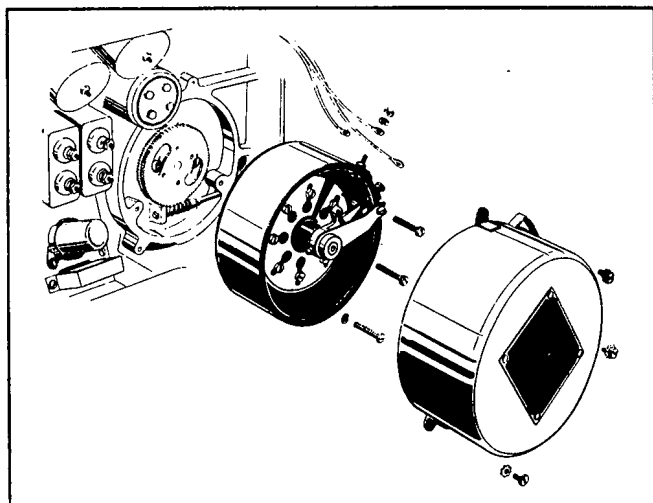

Figure 7-38. Removing Helipot from Range Scope
(1) The linearity required of the helipot cannot be adjusted very readily in the field. Consequently, if the alignment procedure discloses that the helipot is out of adjustment, it should be replaced. This is comparatively easy and is described in the following steps.
(2) Unscrew the captive screws that hold the front panel of the Range Scope to the Indicator Console case. Pull the chassis out until it locks. It is possible to replace the helipot with the chassis in this position. While it is a little awkward, it is necessary to remove the cable connections before the chassis can be completely removed. If it is desired to remove the chassis, press on the lock releases on each side of the opening into which the chassis slides. This releases the locks and allows the chassis to be completely removed. The cable must be disconnected before the locks are released. Two men should remove the chassis to avoid dropping it.
(3) The removal of the helipot is shown in Fig. 7-38. The first step is to remove the three leads. Next remove the three screws that hold the dust cover in place over the helipot, and remove the cover.
(4) Rotate the RANGE STEP control until the arm of the helipot reaches the end of its travel as shown in Fig. 7-38. While the figure shows the arm in one position, either extreme position is satisfactory.
(5) Remove the three screws that hold the helipot to the frame casting. The helipot can now be lifted off.
(6) To install the new helipot, rotate its arm to the same position occupied by the old one. Then carefully place the helipot in position so that the pins on the top of the helipot engage in the holes on the split worm gear assembly. See Fig. 7-38.